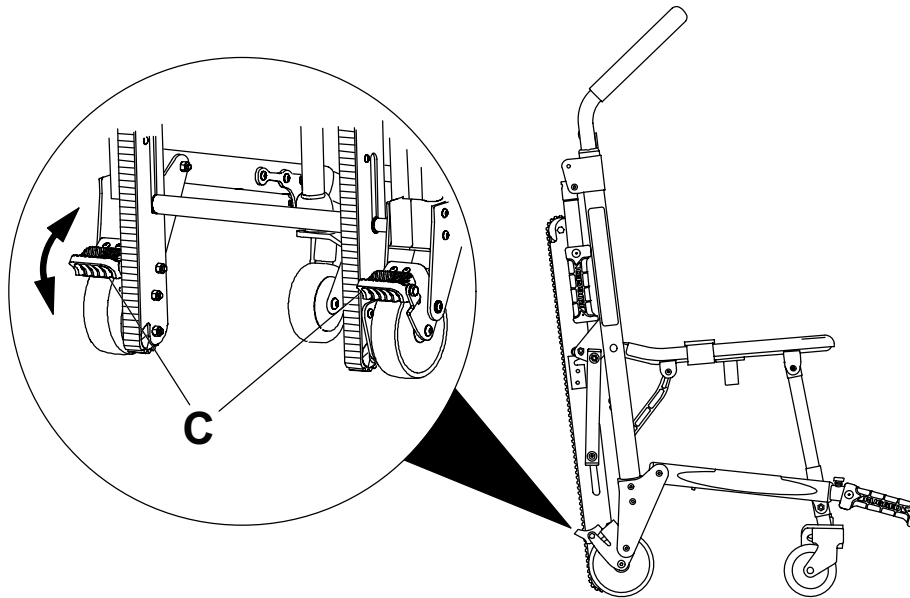

Figure 18 – Wheel locks
To apply a wheel lock (C), press down on the pedal until it stops and rests against the surface of the wheel (Figure 18).
To release a wheel lock (C), press down on the top of the pedal with your foot or lift up on the pedal with your toe (Figure 18). The top of the pedal will rest against the caster frame when you release the wheel lock.